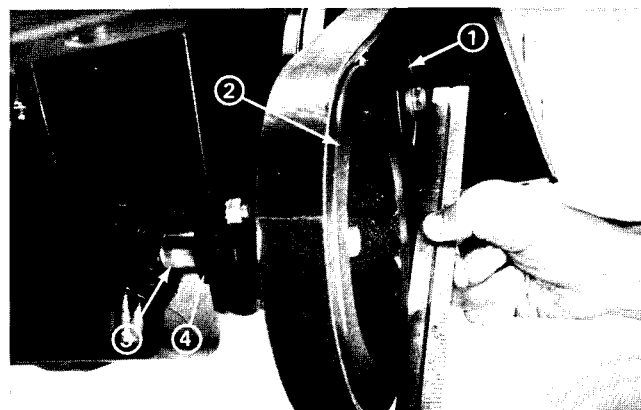

Figure 7
4. The clutch pulley and PTO pulley grooves must be in line within 1/16 in. (1.6 mm). Measure near the bottom of the pulleys with the belt lightly tensioned (Fig. 7).
7. Loosen the setscrews in the lock collars (Fig. 7, 8). Use a punch and hammer to loosen the collars by driving them clockwise (as viewed while facing forward). Shift the position of the shaft and pulley until proper alignment is achieved.